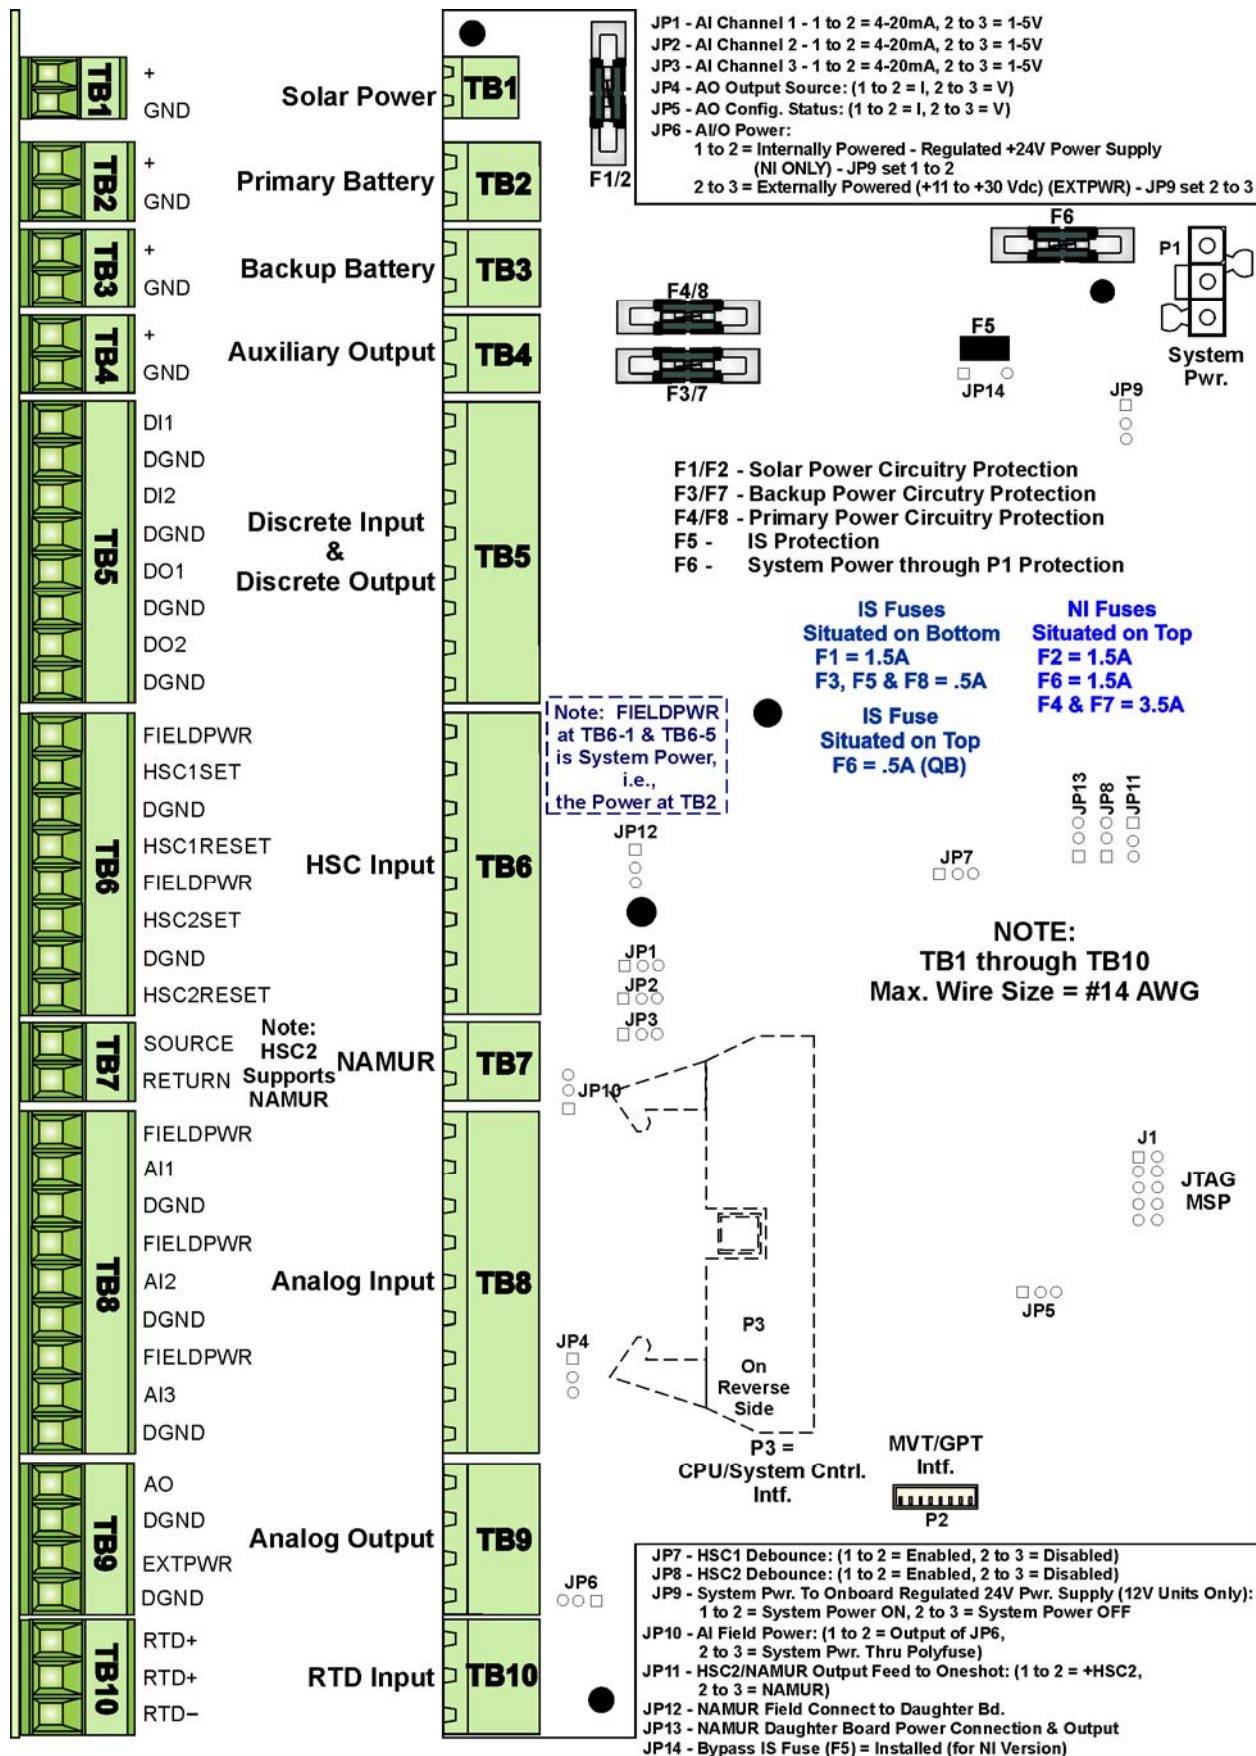

Figure 2-7 - Battery Charger & I/O Board Component Identification Diagram
Battery Charger and I/O Board jumpers must be set to configure field I/Os, the system power (+24V or EXTPWR) used in conjunction with the Analog Output, and to install/remove the intrinsically safe (IS) Fuse (F5) (see Figure 2-7).